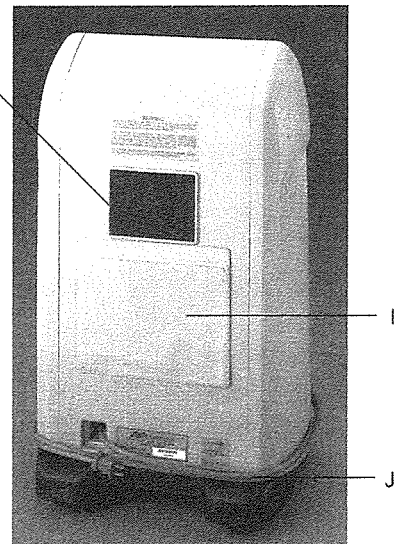

Figure 1b
5. Remove the power cord *completely* from around the concentrator, if wrapped around, as shown (**Figure 1b**).